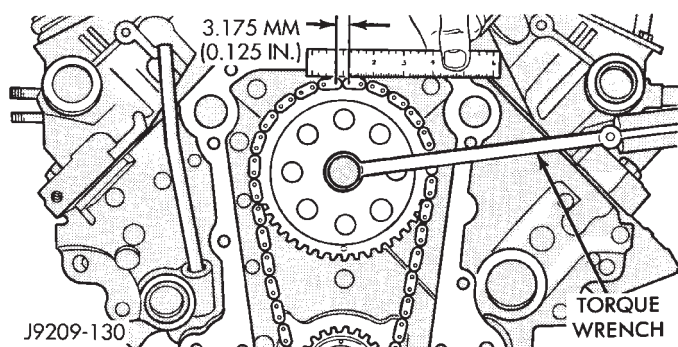

Fig. 4 Measuring Timing Chain Wear and Stretch
(1) Place a scale next to the timing chain so that any movement of the chain may be measured.
(2) Place a torque wrench and socket over camshaft sprocket attaching bolt. Apply torque in the direction of crankshaft rotation to take up slack; 41 N•m (30 ft. lbs.) torque with cylinder head installed or 20 N•m (15 ft. lbs.) torque with cylinder head removed. With a torque applied to the camshaft sprocket bolt, crankshaft should not be permitted to move. It may be necessary to block the crankshaft to prevent rotation.
(3) Hold a scale with dimensional reading even with the edge of a chain link. With cylinder heads installed, apply 14 N•m (30 ft. lbs.) torque in the reverse direction. With the cylinder heads removed, apply 20 N•m (15 ft. lbs.) torque in the reverse direction. Note the amount of chain movement (Fig. 4).
(4) Install a new timing chain, if its movement exceeds 3.175 mm (1/8 inch).
(5) If chain is not satisfactory, remove camshaft sprocket attaching bolt and remove timing chain with crankshaft and camshaft sprockets.